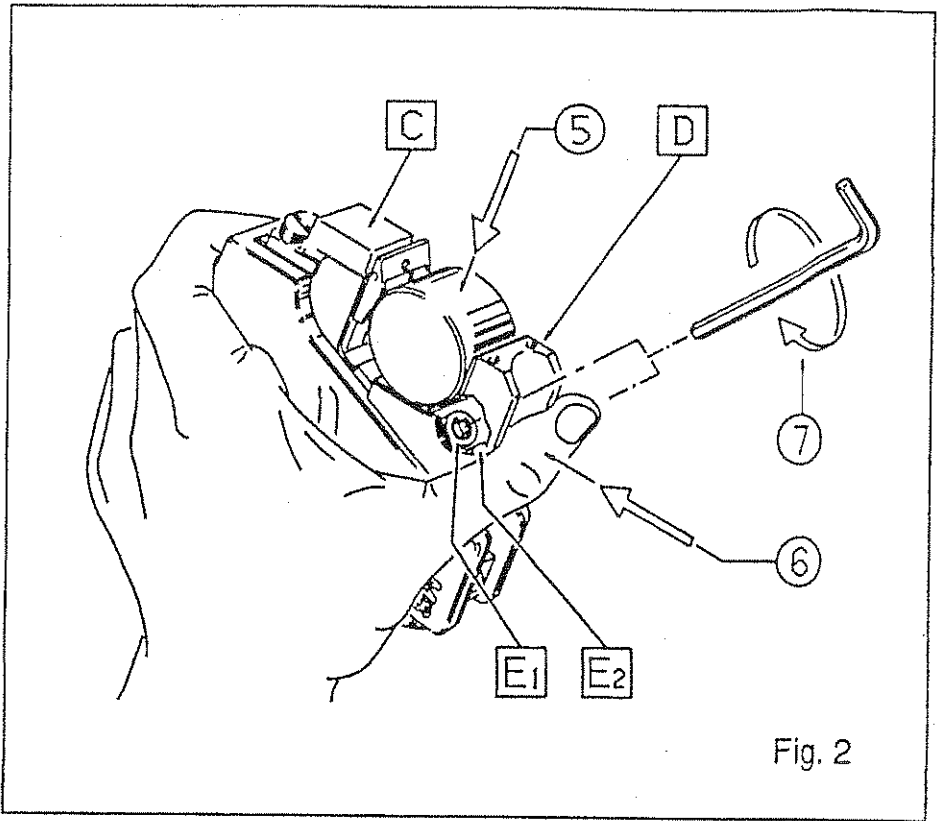

Fig. 2
- 5) Hold the snap gauge as shown in Figure 2, and place the master on the reference prism.